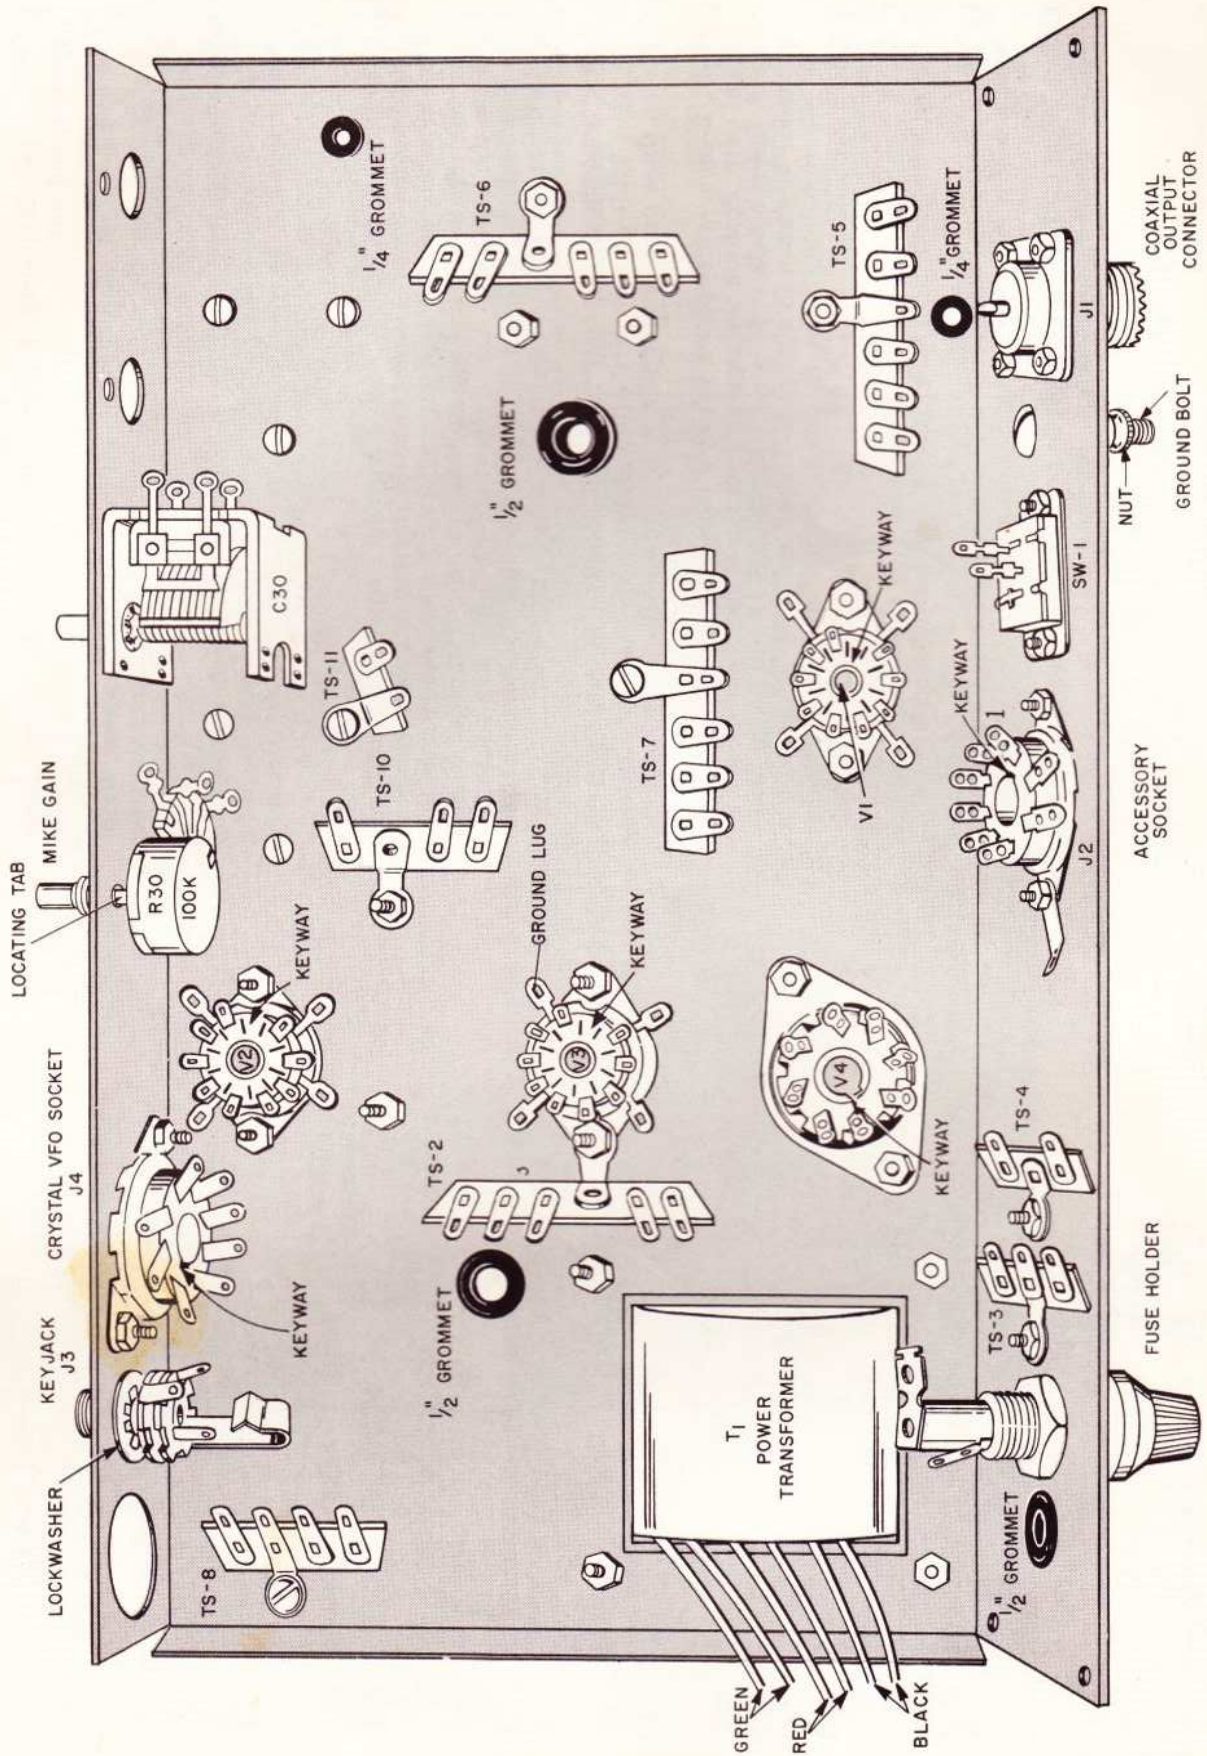
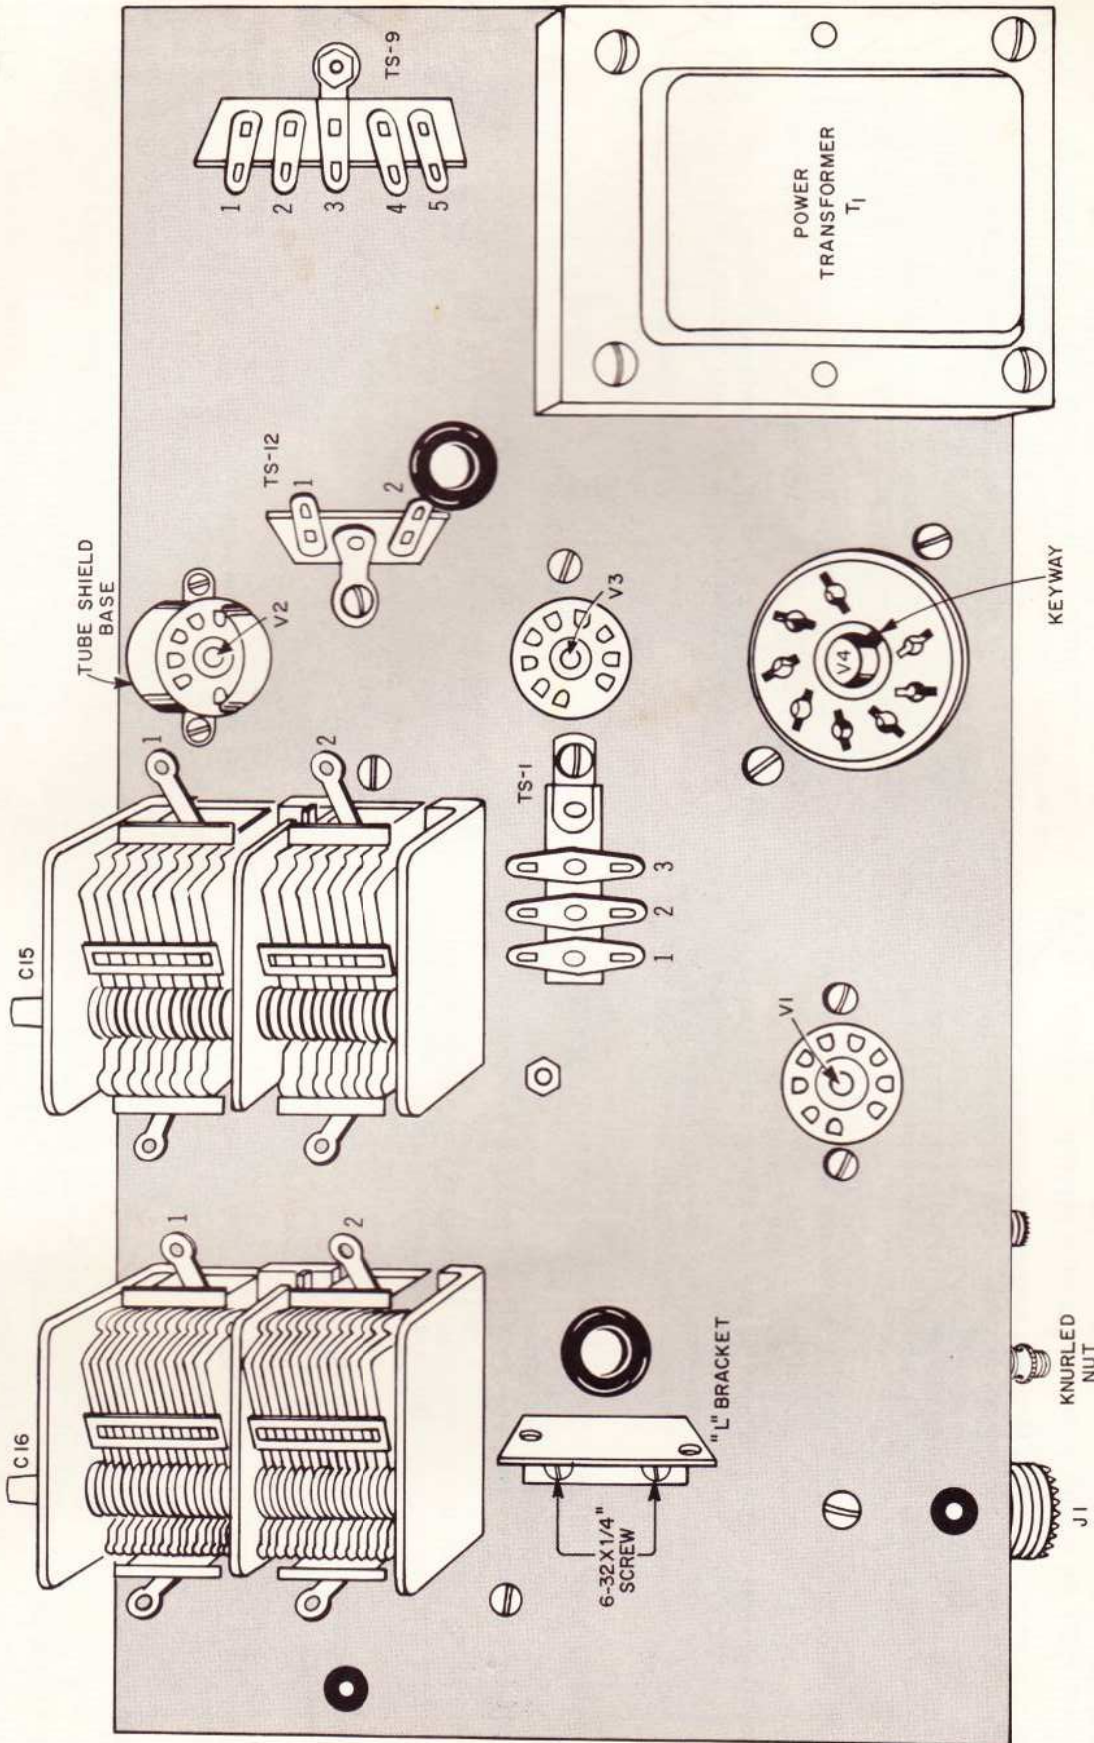

FIGURE 2
FIGURE 6
## SEE FIGURES 2 AND 6
**NOTE:** It is sometimes helpful to write the part symbol on the chassis with a soft pencil or crayon. Make sure the tube sockets and terminal strips are positioned exactly as shown in Figure 2.
- ✓ J2, 8-pin accessory socket, and solder lug. Position the socket with the keyway as shown in Figure 2. Place the solder lug between the socket and lockwasher at the point shown and fasten with two 6-32 x 1/4" screws, lockwashers, and nuts.
- ✓ SW-1 slide switch. Mount so terminals are positioned as shown in Figure 2. Fasten with two 6-32 x 1/4" screws, lockwashers, and nuts.
- ✓ C-15, 2-gang, wide-spaced variable capacitor; and TS-11, 2-terminal strip. Position the capacitor on top of the chassis. See Figure 6. Insert a 6-32 × 1/4" screw through TS-11 and fasten to the capacitor as shown in Figure 2. Thread a 6-32 × 1/4" screw into the two remaining holes in the capacitor. Place a lockwasher under each screw.
- ✓ C-16, 2-gang variable capacitor. Position as shown in Figure 6. Fasten with three 6-32 × 1/4" screws, and lockwashers.